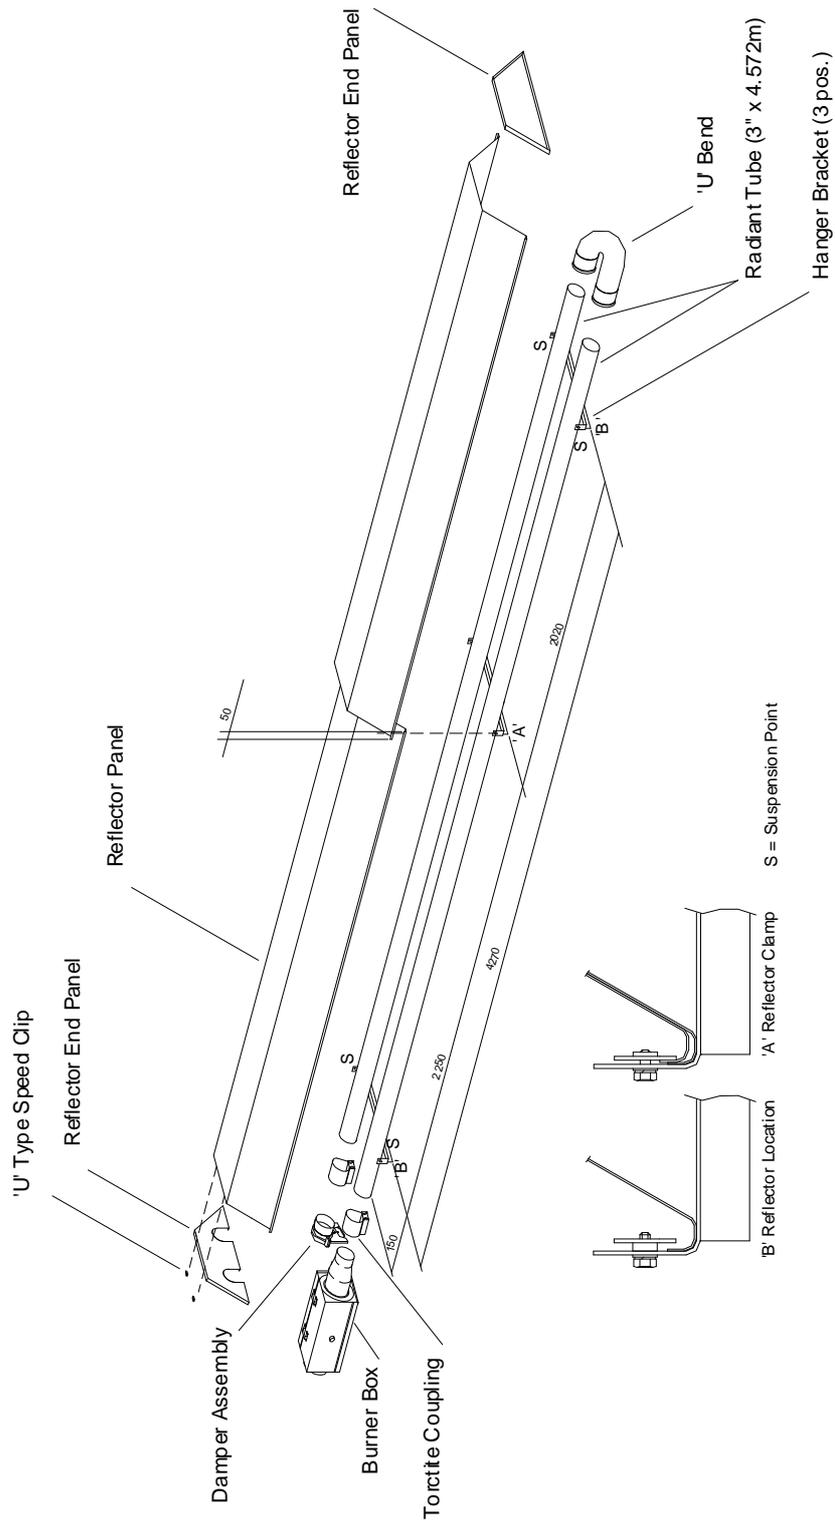

Fig. 17
- 4.2.2 Assemble the three Hanger Brackets to the Radiant Tubes using two 'U' bolts per bracket (from Fastenings Pack) and position along the Radiant Tubes as shown in Fig 17. Tighten the nuts sufficiently to retain the Hanger Brackets. Do not over tighten.
- 4.2.5 Place the two Reflector Panels onto the Hanger Brackets and position to provide a 50mm overlap at the centre arranged equally about the centre Hanger Bracket. Clamp the two Reflector Panels to the centre Hanger Bracket using two retainers and M6 setscrews and washers (fastening pack). Screw the remaining (4) retainers to the two outer Hanger Brackets to provide location for the Reflector Panel ends as shown in Fig. 17.
- 4.2.6 Position the Reflector End Panel (notched) over the Radiant Tubes and into the end of the Reflector Panel, with the End Panel flange flush with the end of the Reflector. Secure the Reflector End Panel to the Reflector Panel by use of 6 - U type speed clips provided (fastenings pack); 2 clips per facet of Reflector Panel, as shown in Fig. 17.
- 4.2.7 The appliance should now be raised and suspended from previously fixed chains or drop rods as detailed in Section 3.1, at suspension points indicated in Fig. 17. Rope or webbing slings should be used when lifting from above. If using a forklift to position the appliance, ensure that the appliance is balanced on the forks prior to lifting.